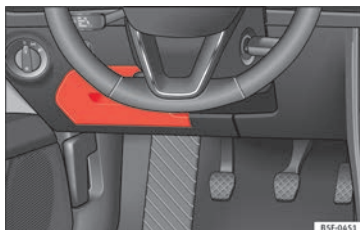

Fig. 202 On the driver-side dash panel: fuse box cover
- *Opening:* fold the cover down » **Fig. 202.**